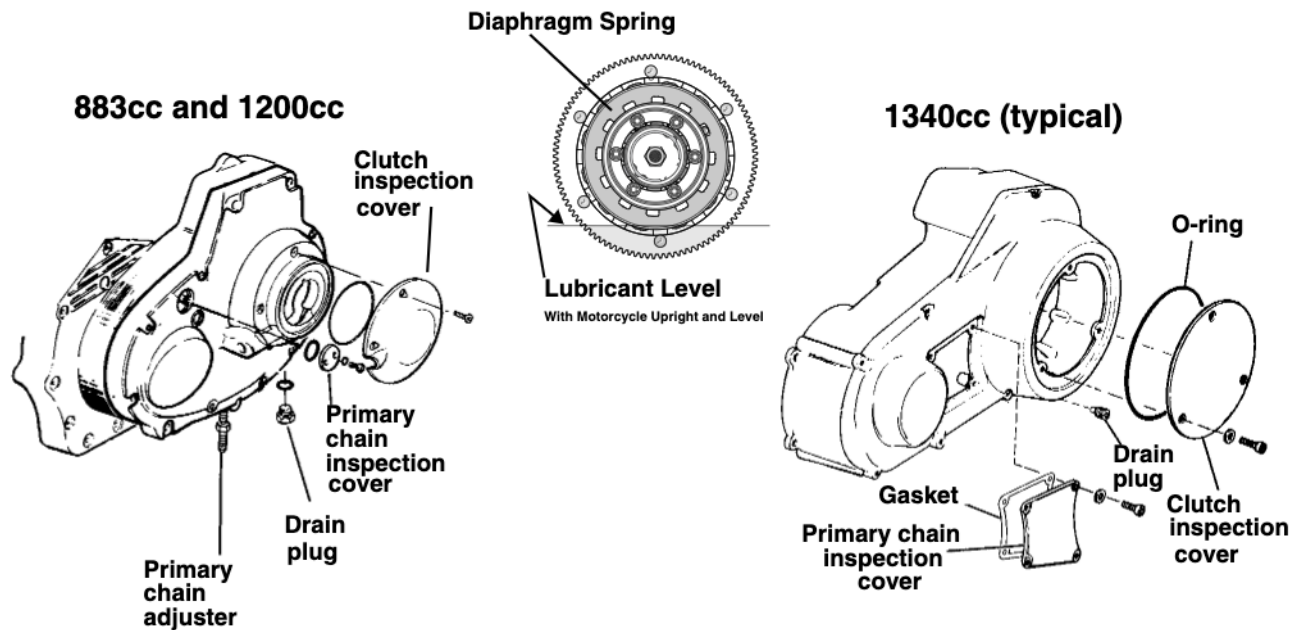

Figure 36. Primary Chaincase
2. See Figure 36. Remove screws and washers that secure clutch inspection cover.
See Figure 36. The drain plug is located under the clutch, on the underside of the chaincase. The filler access is the clutch inspection cover. To determine correct lubricant level in the transmission and chaincase compartments, proceed as follows: